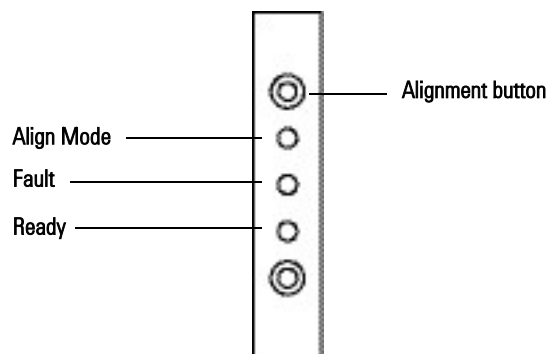

Figure 71 Aligning the ALS
- 4 Use a long, narrow object to press the recessed Alignment button above the indicator lights. Avoid contact with anything behind or around the button inside the recessed hole (Figure 71).